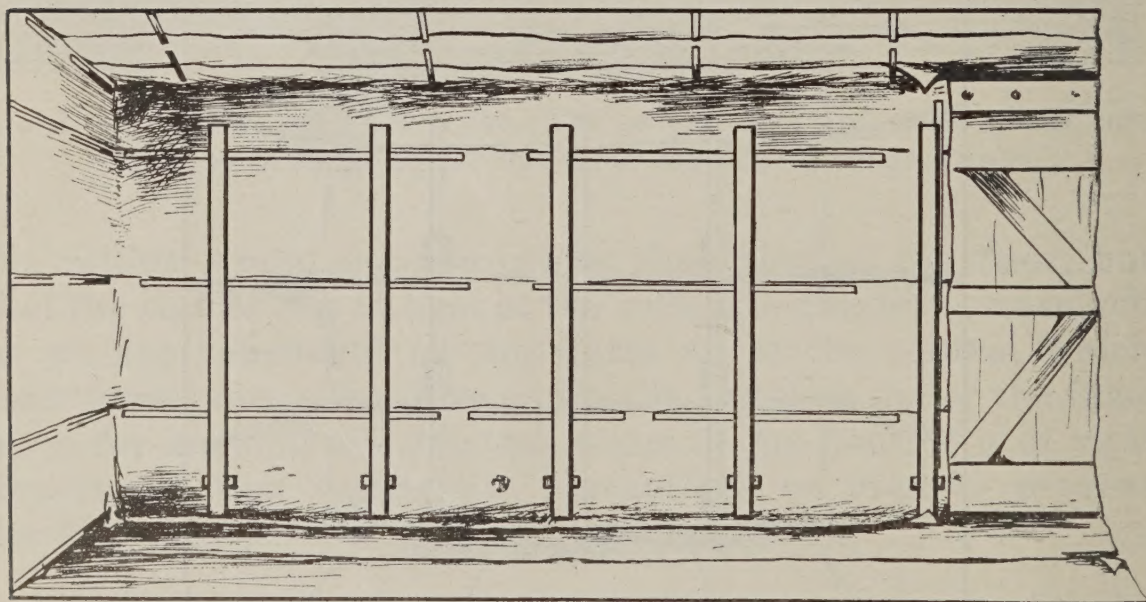

FIG. 6.—False side wall studding in place.
6. Spike 5 of the 2 by 4 in. by 7 ft. pieces to the blocks as illustrated in figure 6. This will make a 4-inch space between the false side wall and the car side wall at the top row of blocks, and a 6-inch space at the bottom row.